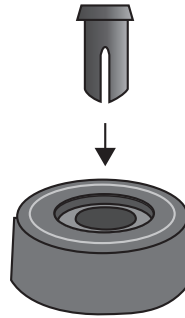

Figure 25. Inserting the Rivet Housing into the Bumper Foot
2. Insert a rivet housing into a bumper foot. Refer to Figure 25.